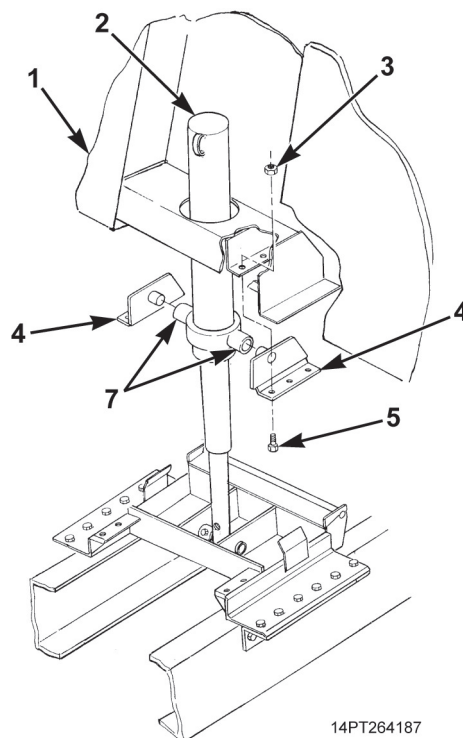

Figure 9. Mounting Bracket Installation.
11. Lift front of dump body (Figure 9, Item 1), remove wooden blocks, position body props in raised position, and lower body onto props (WP 0005).
12. Install driver's side and passenger's side mounting brackets (Figure 9, Item 4) on hydraulic cylinder (Figure 9, Item 2) pivots (Figure 9, Item 7).
13. Align mounting brackets (Figure 9, Item 4) with mounting surface of dump body (Figure 9, Item 1).
14. Install six screws (Figure 9, Item 5) and new locknuts (Figure 9, Item 3) to secure mounting brackets (Figure 9, Item 4) to dump body (Figure 9, Item 1). Torque locknuts to 150 lb-ft (203 N•m).
15. Remove dump body (Figure 9, Item 1) from body props and lower body (WP 0005).
16. Remove lifting device with chains from dump body (Figure 9, Item 1).